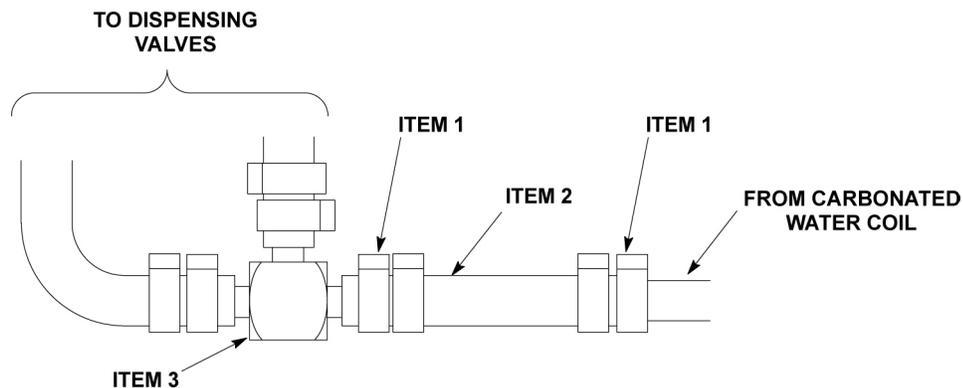
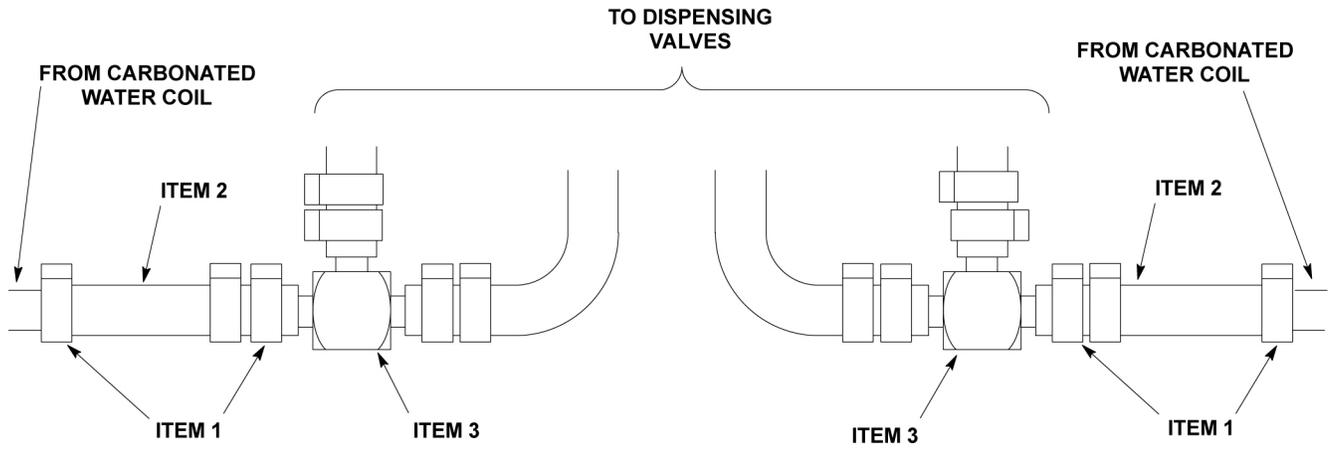
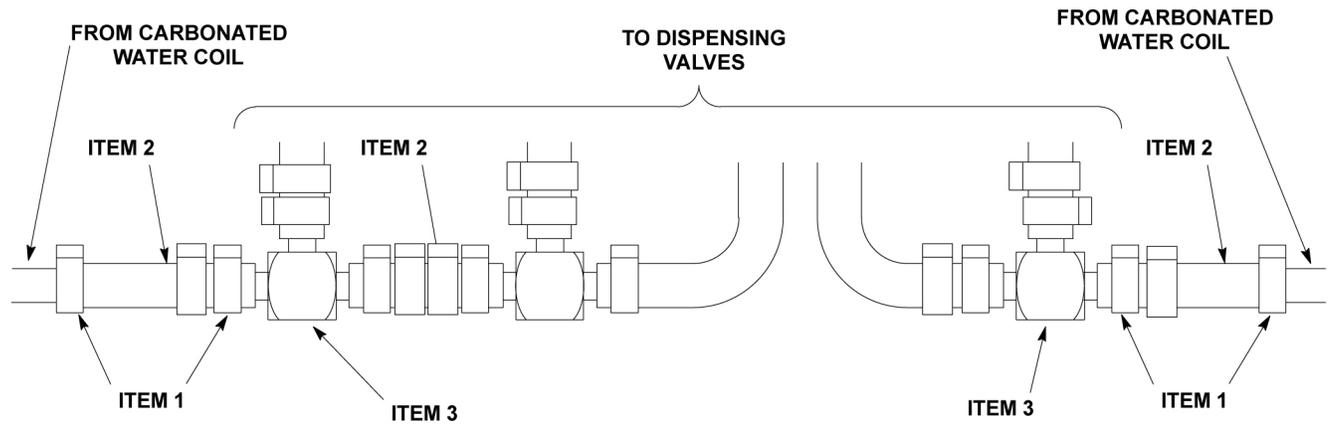

Figure 2. Four-Flavor Dispenser
Figure 3. Five-Flavor Dispenser
Figure 4. Six-Flavor Dispenser
4. Install new carbonated water manifold configuration on the Dispenser by using kit parts which are listed in Table 1. Refer to applicable Figure 2 (Four-Flavor Dispenser), Figure 3 (Five-Flavor Dispenser), or Figure 4 (Six-Flavor Dispenser) for correct manifold configuration for your Dispenser. Make sure tubing connections are properly clamped and steel tubing has not been kinked.